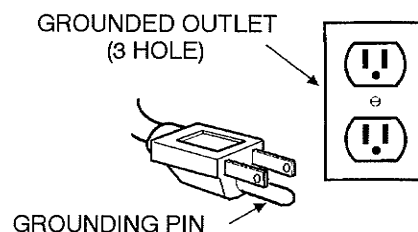

FIG. 6
1. Connect power cord into a grounded wall outlet (Figure 6). Use a wall outlet outside the area to be cleaned.